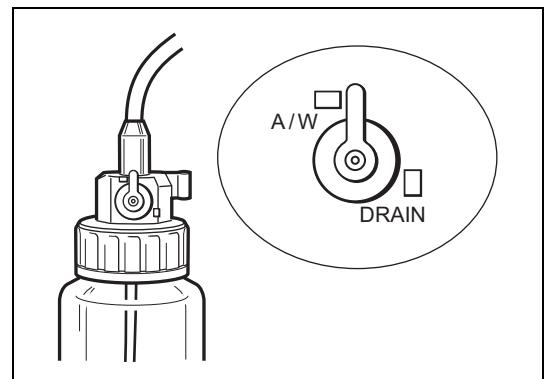

Figure 3.2
- 4 Align the A/W DRAIN lever with the A/W (air/water supply) position. (Refer to Figure 3.2.)**